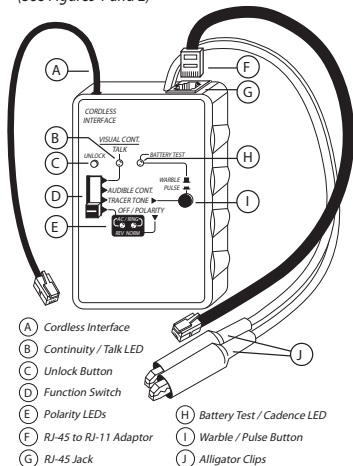

Figure 1
6: Fox 2 and Hound 3 Control Locations (See Figures 1 and 2)
8.1: FOX 2 Details (Refer to Figure 1)